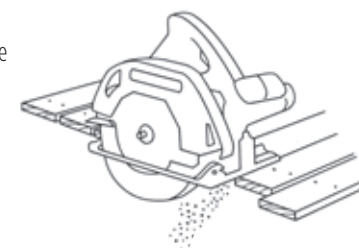

Fig 14 Trim the deck timbers. Note: Use Timber Reseal on any exposed CCA timber ends, this protects any exposed CCA timber from rot and fungi.
■ Finally, trim the excess from the end of the deck flush with the ends of bearers by using a chalk line to snap a straight edge and a circular saw to trim the timbers (Fig 14).